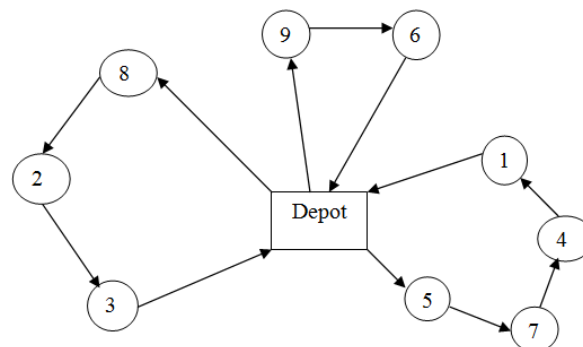

Fig. 1 9 Customers 3 Vehicles Routing Problem
2. **[Programming Exercise - 5 Marks]** An industrial communication company is planning to lay cables to a new factory allowing all the factory's units to be linked for the interchange of data. If it is constrained to bury the cable only along certain paths, then there would be an undirected graph representing which points are connected by those paths. Some of those paths might be more expensive, because they are longer, or require the cable to be buried deeper; these paths would be represented by edges with larger weights. For example, Figure 1 shows 5 factory's units and the possible paths along which the cables can be buried.